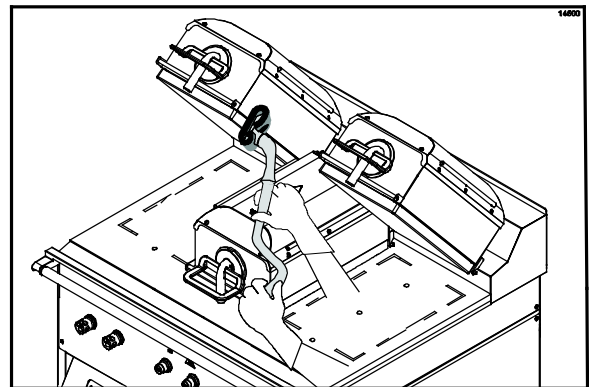

Figure 93
- Apply grill cleaner to the inner edges of the right and left platens. (See Figure 93.)